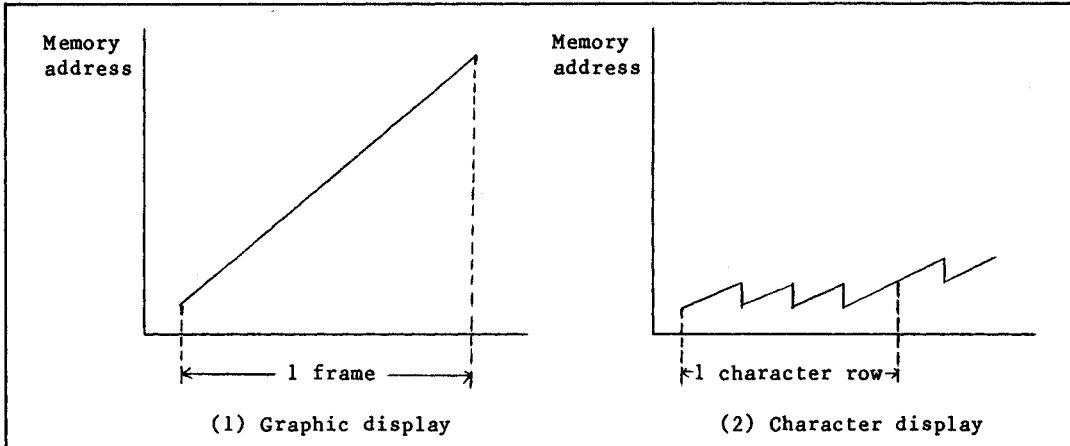

Figure 12-8 Difference in Memory Address Management between Graphic Display and Character Display
In the LCTC graphic modes (modes 3, 7, 11, and 13), a memory address (MA) output changes continuously as shown in Figure 12-8(1). In the character modes, the character generator ROM is used. So, as shown in Figure 12-8(2), the MA output changes continuously in a raster and this operation is repeated as many times as the number of rasters in a character row.